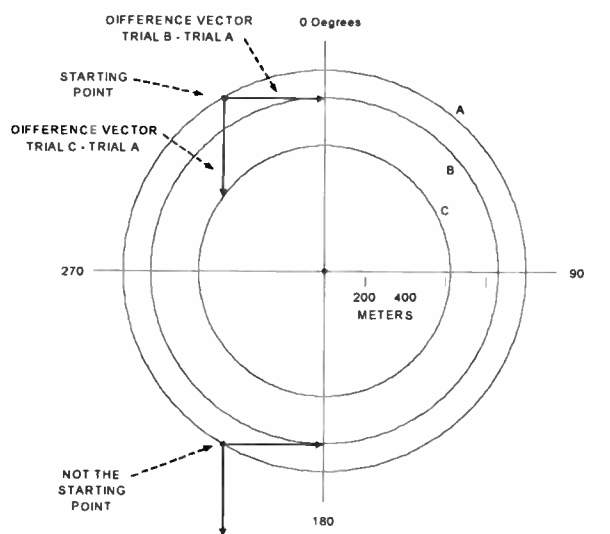

Figure 2: After two test walks, only one result works.
12. As you can see from Figure 2, you now simply look to see which one of the two possible points, with the difference vector added to it, lands you on the C circle.